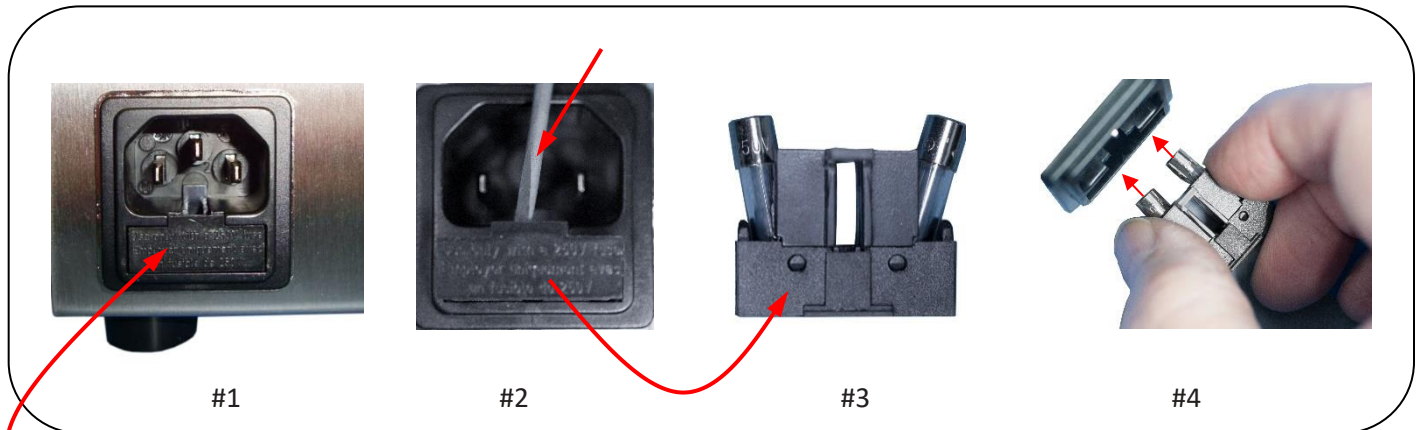

Figure 3-17 Replacing Fuses
To replace fuses, disconnect AC supply cord from instrument. The fuse tray is located on the bottom of the power inlet (Figure 3-17).
1. Remove power cord and note fuse tray location (Figure 3-17, #1).
2. Using a small flat blade screwdriver, insert tip under lip of fuse tray and pry gently outward. See Figure 3-17, #2.
3. Remove tray then remove and discard fuses from tray. See Figure 3-17 #3.
5. Grasp the tray in a manner that holds the fuses in the tray, as shown in Figure 3-17, #4. Place tray into opening, release hold on fuses and slide tray in slowly until fuses engage fuse sockets inside AC Power Inlet box. Push in firmly until tray is flush with Inlet body.